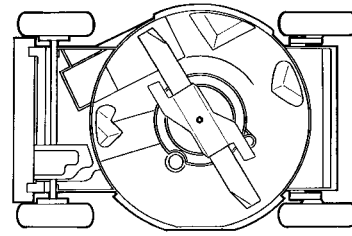

Figure 27
4. Tip the lawn mower on its left side (air filter up) (Fig. 27).